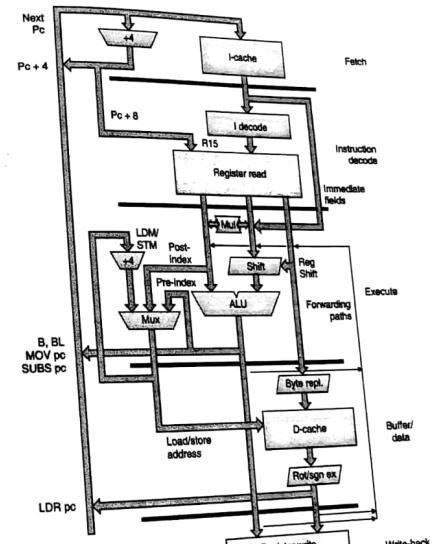

Fig. 11.10.5 : Organization of 5-stage pipeline in ARM
- Fig 11.10.5 shows the organization of the 5-stage pipeline organization in ARM9TDMI.
- In this case the fetching, decoding and execution are done in the same manner as in the 3-stage pipeline, by the respective blocks as seen in the Fig 11.10.5.